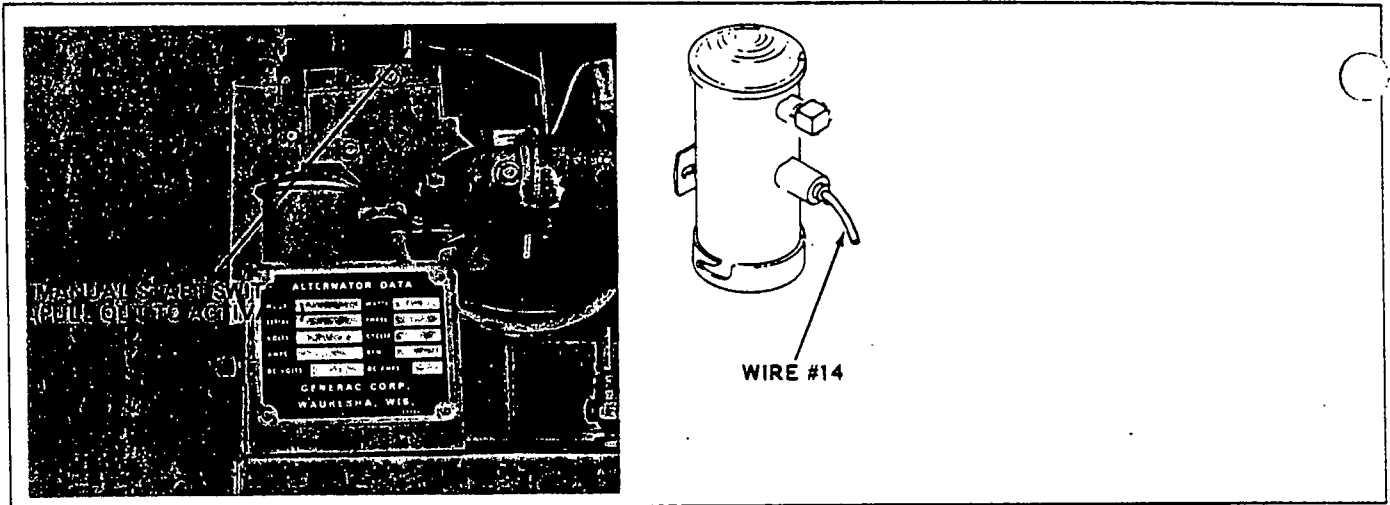

Figure 11
A.) Hold the manual start switch to the "activate" position (figure 11). The fuel pump should click rapidly at first and then taper off to a slow, steady pulse after about one minute.
#14 at the fuel pump (figure 11). Hold the manual start switch to the activate position. The meter needle should swing up-scale and indicate 12 volts on the DC scale.